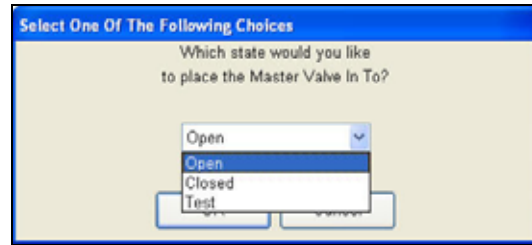

Figure 7.2.4
3. Click on the **DOWN** arrow to view the different screen selections (Figure 7.2.4).